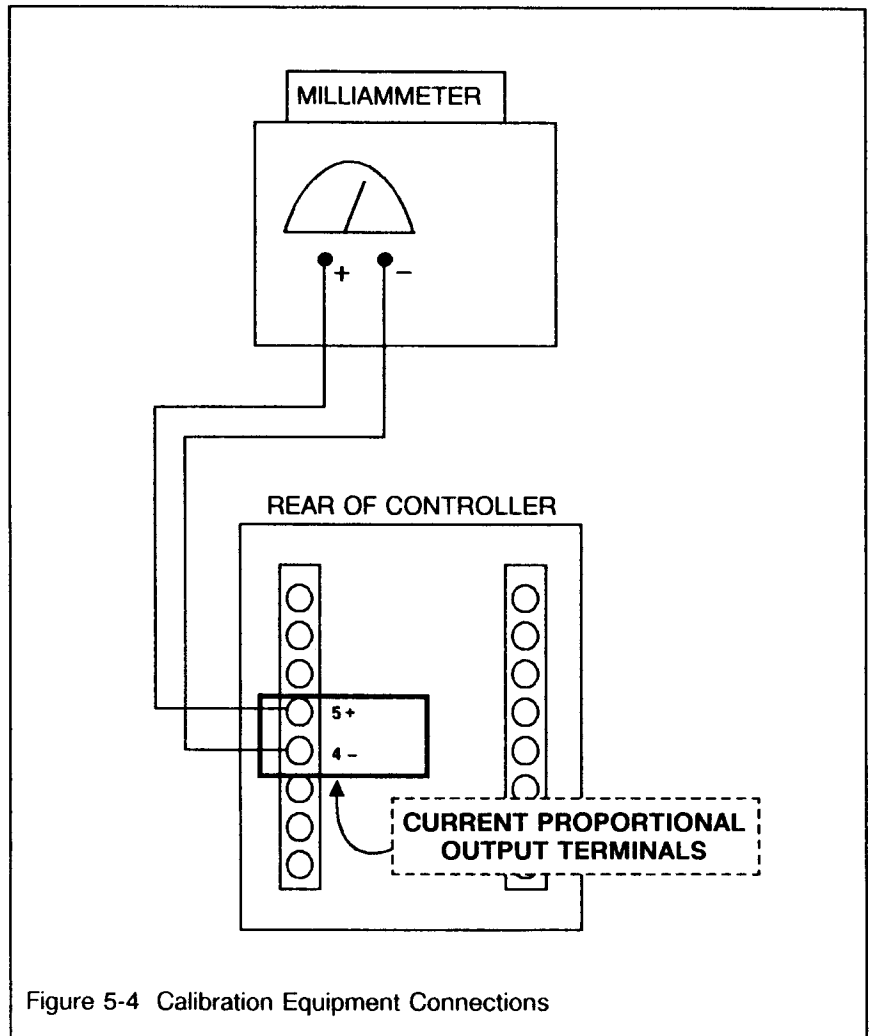

Figure 5-4 Calibration Equipment Connections
- Tag and disconnect the field wiring at the rear of the controller from terminals 4 and 5 (see Figure 5-4).
- Connect a milliammeter across terminals 4 and 5 (see Figure 5-4).